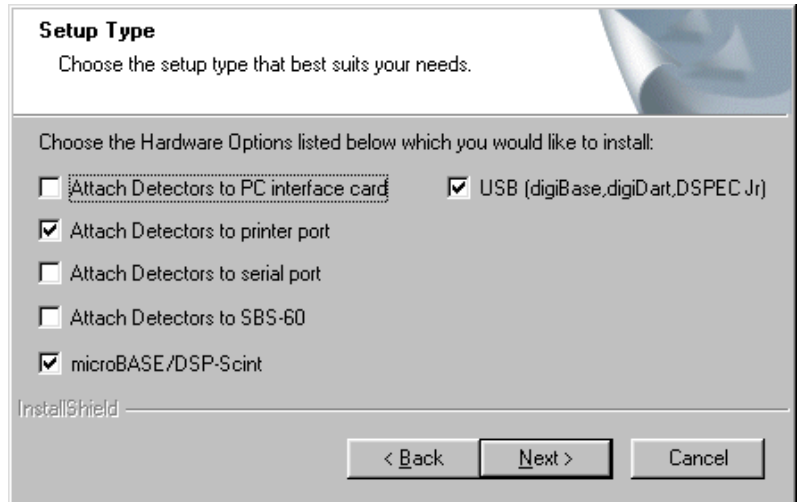

Fig. 33. Choose the Interface for Your USB Instrument .
- 4) On the Setup Type page, mark the checkbox that corresponds to your new USB instrument, as shown in Fig. 33. If you also have other types of MCBs attached to this PC, refer to step 5 in Section 2.2.2 to determine the other types of Hardware Options you should select here. Click on **Next**.
- 5) The second installation wizard screen (see Fig. 33, page 20) will ask which instrument interfaces you wish to use. These choices are given to minimize the interferences with existing hardware on the PC or network. Select as many as needed, however, choose only the attachment options appropriate for this PC. For laptops, do not check the **Attach instruments to my PC interface card** box. Check the **Attach instruments to my printer port** box only if you are connecting MCBs via the printer port.